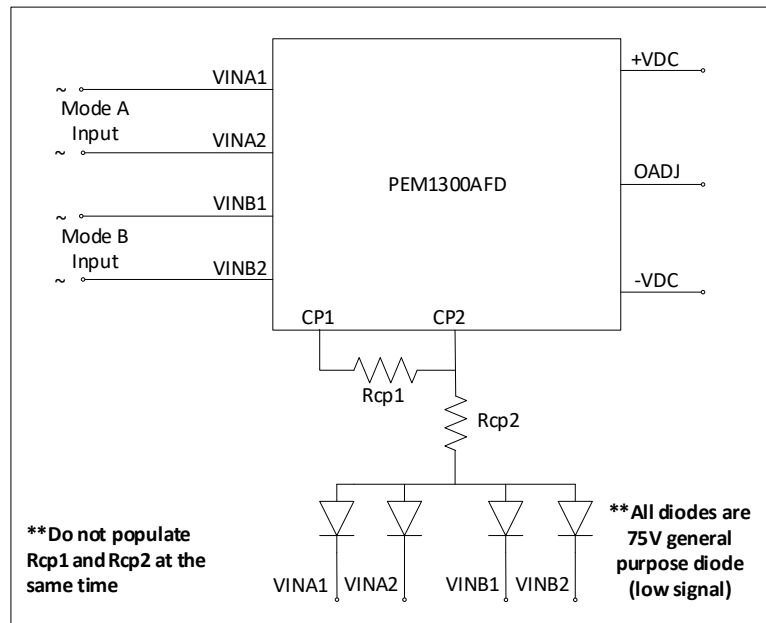

Figure 4- Class Programming
Due to the input polarity neutrality of the PEM1300AF, system designers must use four general-purpose diodes rated 75V or higher, such as 1N4148, as shown in *Figure 4*. Populate either RCP1 or RCP2, but do not populate both at the same time.
- Use 4 x 1N4148 or similar 75V or greater general-purpose diodes as in *Figure 4*
24JR1	<ul style="list-style-type: none"> ▪ Updated OUTPUT CONNECTION diagram. Updated Figure 4 Class programming